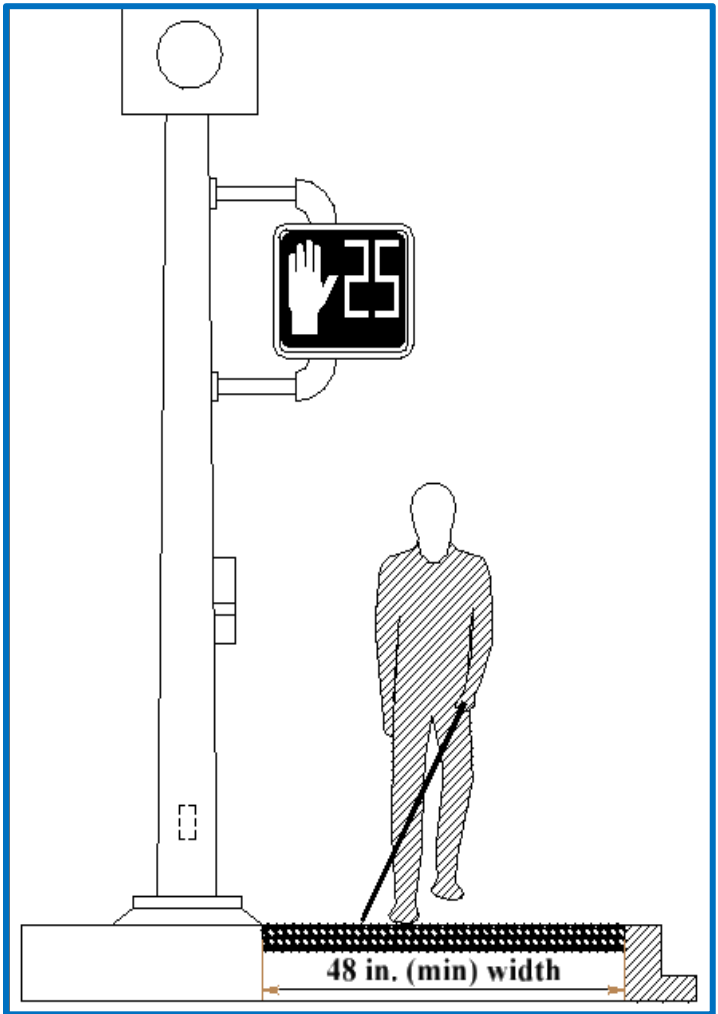

Figure 10 Minimum Pedestrian Route Width
- The pedestrian route must have a clear width of no less than 48 inches. Verify that no fixed objects such as cabinets or poles, will reduce the route width at any point. (See Figure 10.)